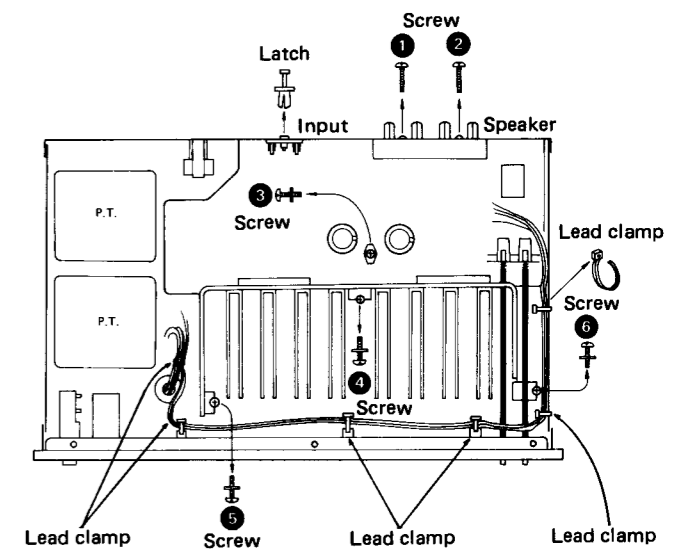
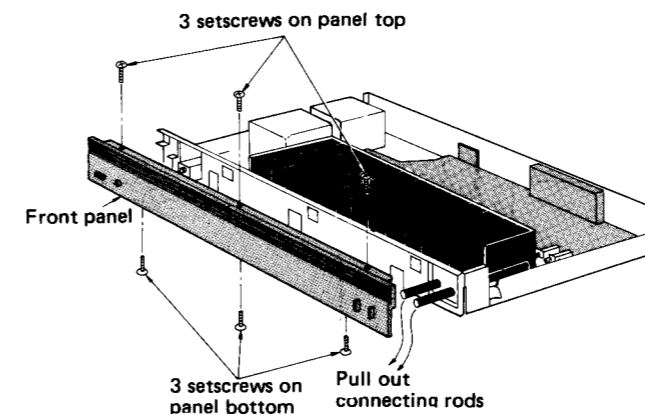

Fig. 1
Fig. 2
2. Remove the latch which secures the input terminal on the rear panel, and the 2 setscrews (1, 2 in Fig. 2) which fasten the speaker terminal.
3. Remove the setscrew (3) used to secure the printed circuit board.
5. Cut off the lead clamp (SHR301) shown in Fig. 1.
6. Remove the 6 setscrews to detach the front panel as shown in Fig. 2.